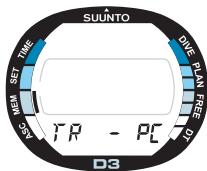

Fig. 5.11. Data Transfer and PC-Interface.
1. In the Memory Mode [MEM], press **S** three (3) times to select the Data Transfer Mode. The TR-PC text appears at the bottom of the display to indicate the selected mode (Fig. 5.11.).